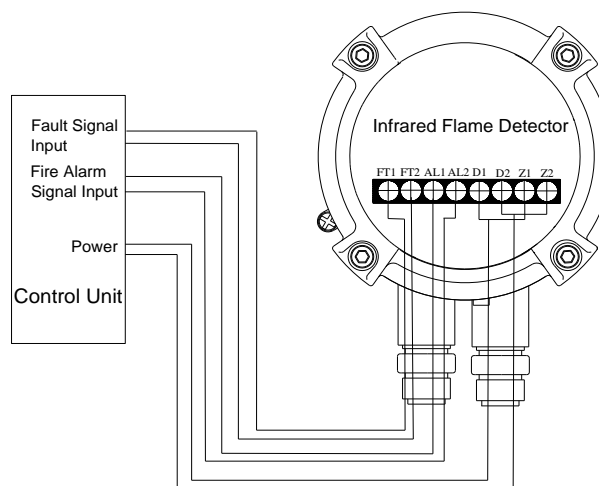

Fig. 11
- 2 Connection of the detector with control panels of other suppliers are shown in Fig. 11.